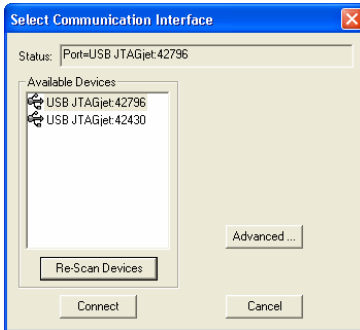

FIGURE 4 Choosing the emulator to connect to.
- The **Select Emulator and Customize Connection Parameters** method allows you to select your emulator and customize the connection parameters. Click Next to display a list of the available emulators (Figure 4).